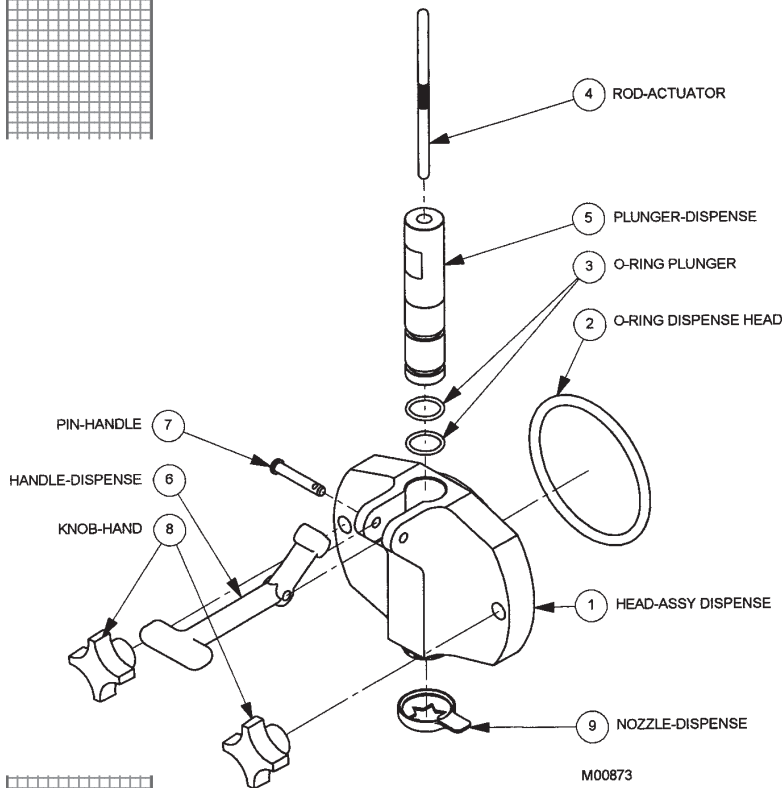
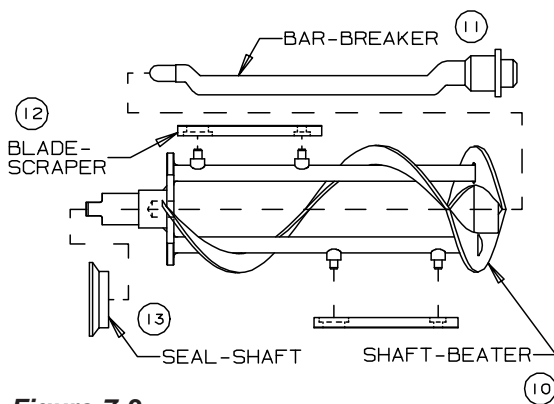

Figure 7-2
Figure 7-3
1. Remove plunger rod (4, figure 7-2), hand knobs (8) and pull dispensing head (1) straight out.
2. Remove the handle pin (7), plunger (5) and nozzle (9) from head (1).
3. Remove the beater shaft (10, figure 7-3) and scraper blades from the cylinder. Then remove breaker bar (11) and shaft seal assembly (13) from the beater shaft.
6. Remove O-rings (2,4) from mix feed tube (1). Remove O-ring (4) from regulator (3).
7. Remove O-ring (figure 7-2, #2) from head (1). Remove O-rings (3) from plunger (5). Remove the shaft cup seal (figure 7-3, #13, and 7-7) from the washer on the shaft seal assembly.